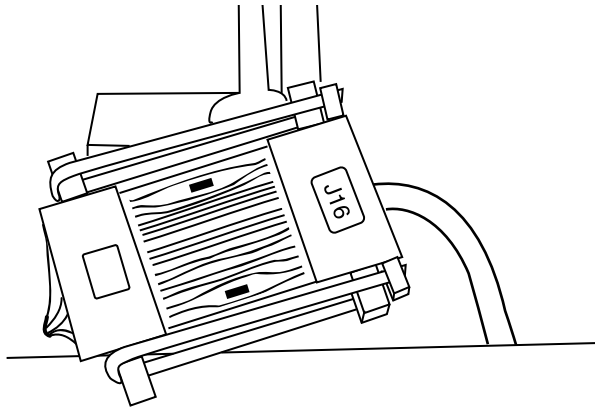

Figure 5-11. Connecting J2 to J16
4. Using a small screwdriver, remove the cable access door from the rear of the register. Position the cable to connect J2 to J16 using the jumper PCB. Make sure J2 and J16 are positioned so that the X and • align. (Some cables are marked with TERM rather than •.) Use the tie wraps provided to secure the connection. See Figure 5-11.